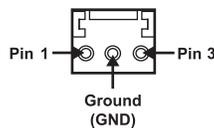

Figure 7 LTC Wiring — 3-Pin Terminal Block Connector
- The left and right pins are the two signals while the center pin is the common Ground (GND). Ross Video does not supply this cable. Refer to **Figure 7**.